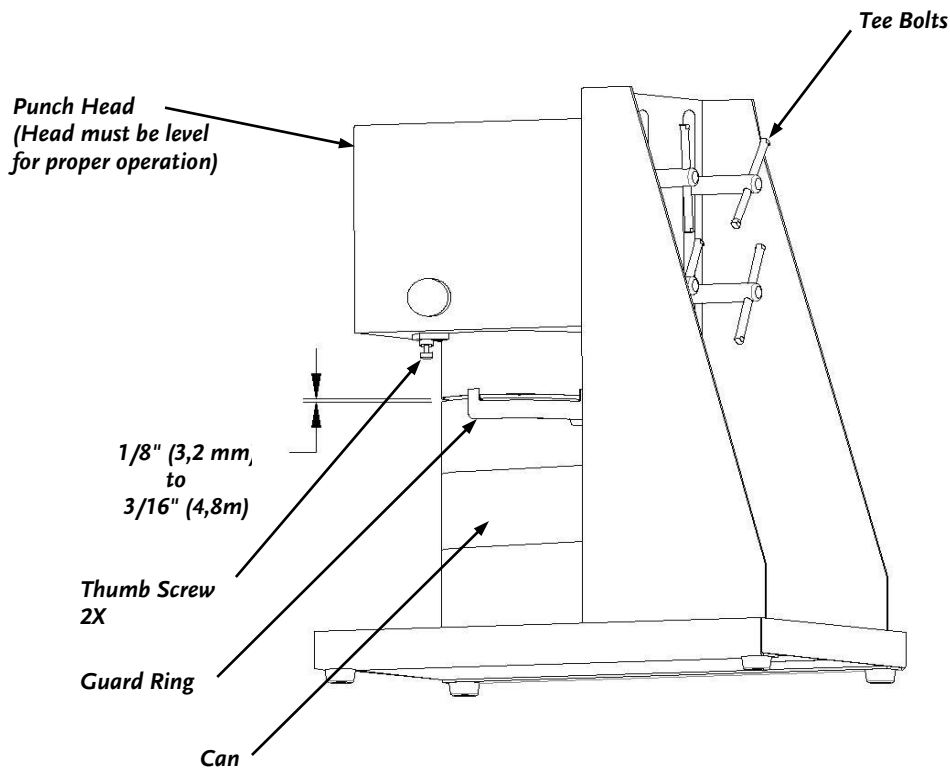

Figure 3
3. Insure the "T" handles are tight. They are located behind the head of the crown punch machine. The height, with the guard ring in place, must be such that when a can is in position under the crown punch, from the can seam to the lip of the guard ring is approximately 1/8 (3,2mm) to 3/16 (4,8mm), (**Figure 3** on page 8).
2. Loosen the four (4) "T" bolts at the rear of the vertical (**Figure 3**) and raise or lower the Head as needed, keeping the can and guard ring aligned and level.
3. Tighten the four (4) "T" bolts.
1. With one hand, hold up on the guard ring (**Figure 3** on page 8) and with the other hand, unscrew the two (2) Thumbscrews (**Figure 3** on page 8).
Remove the splash guard, crown punch, guard ring, and retainer clip (*Figure 3* on page 8) after every use for cleaning. You may rinse down the entire machine with soap and water to remove any residue from the unit.